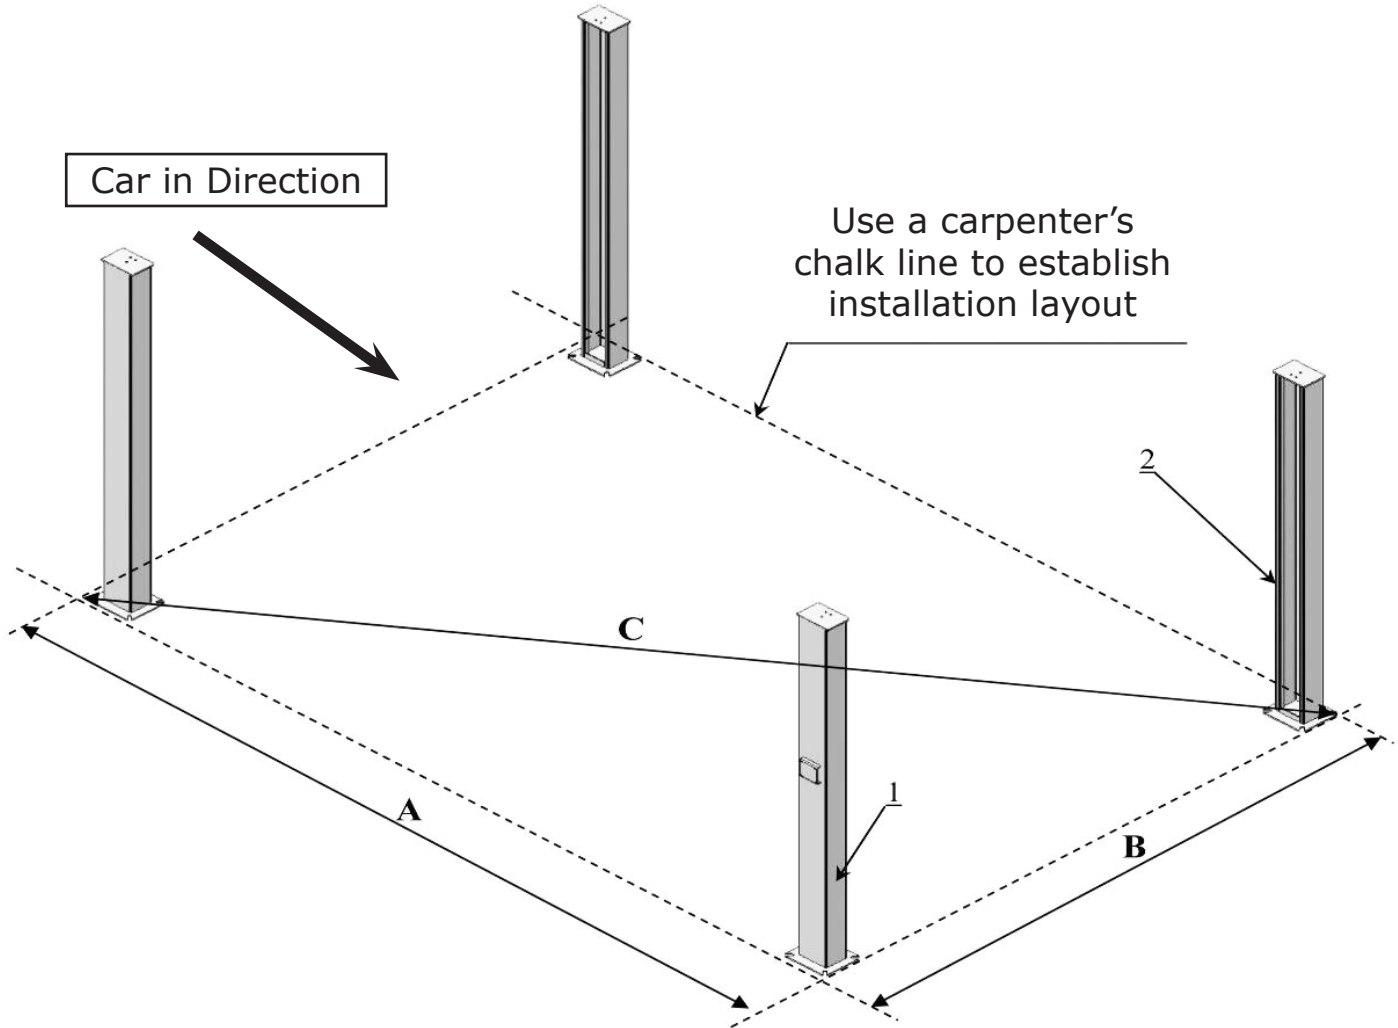

**Fig. 9**
- Check the parts of the parts bag according to the parts bag list (See Fig. 9).